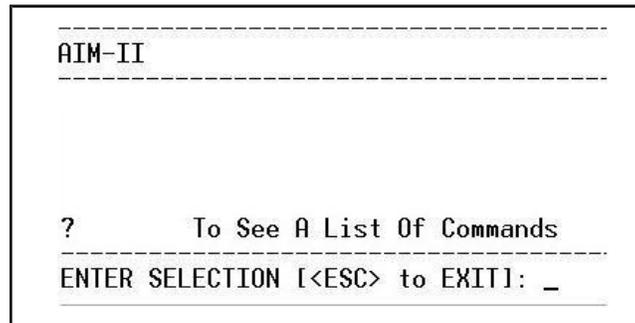

Figure 2. AIM Module Logon Screen
7. Simultaneously depress Ctrl and D to log on to the AIM module. A display (see Figure 2) similar to the following will appear. From this point, commands may be entered at the cursor location to view or program information into the AIM module. Commands used to view or program information into AIM modules are subject to change with each new firmware update. Use the question mark (?) to see a listing of commands applicable to the module you are logged into. Some sample commands are shown on page 6.
11. Simultaneously depress Ctrl and D to log on to the AIM module. A display similar to Figure 2 will appear. From this point, commands may be entered at the cursor location to view or program information into the AIM module. Commands used to view or program information into AIM modules are subject to change with each new firmware update. Use the question mark (?) to see a listing of commands applicable to the module you are logged into. Some sample commands are shown on page 5.
- e. Simultaneously depress Ctrl and D to log on to the AIM module. A display similar to Figure 2 will appear. From this point, commands may be entered at the cursor location to view or program information into the AIM module. All the screen text displayed after logging into the AIM module will appear in the log file located and named in step c, above.
6. If the Capture option was not used, click on Open at the bottom of the window. A COM1 - PuTTY window will open. Simultaneously depress Ctrl and D to log on to the AIM module. A display similar to Figure 2 will appear. From this point, commands may be entered at the cursor location to view or program information into the AIM module. Commands used to view or program information into AIM modules are subject to change with each new firmware update. Use the question mark (?) to see a listing of commands applicable to the module you are logged into. Some sample commands are shown on page 5.